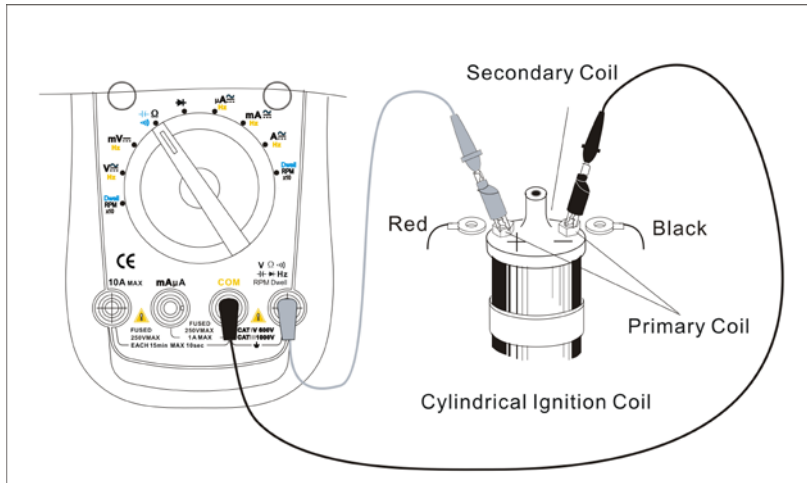

Figure 16
- (1) Before the operation, cool the engine and cut off the ignition coil.
- (2) Set the rotary switch to the Ω . Insert the red test lead into the Ω terminal and the black one into the **COM** terminal. Test the primary coil of the ignition coil.
- (3) Short circuit the red and black test lead probes. Their short circuit resistance should be less than 0.5Ω . If it is more, check the test lead to see if it is loose or damaged. If it is damaged, replace it with a new one.
- (4) Connect the red test lead probe to the primary "+" pole of the ignition coil and the black one to the primary "-" pole of the coil. (see figure 16.) See the detailed positions in various kinds of automotive manuals.